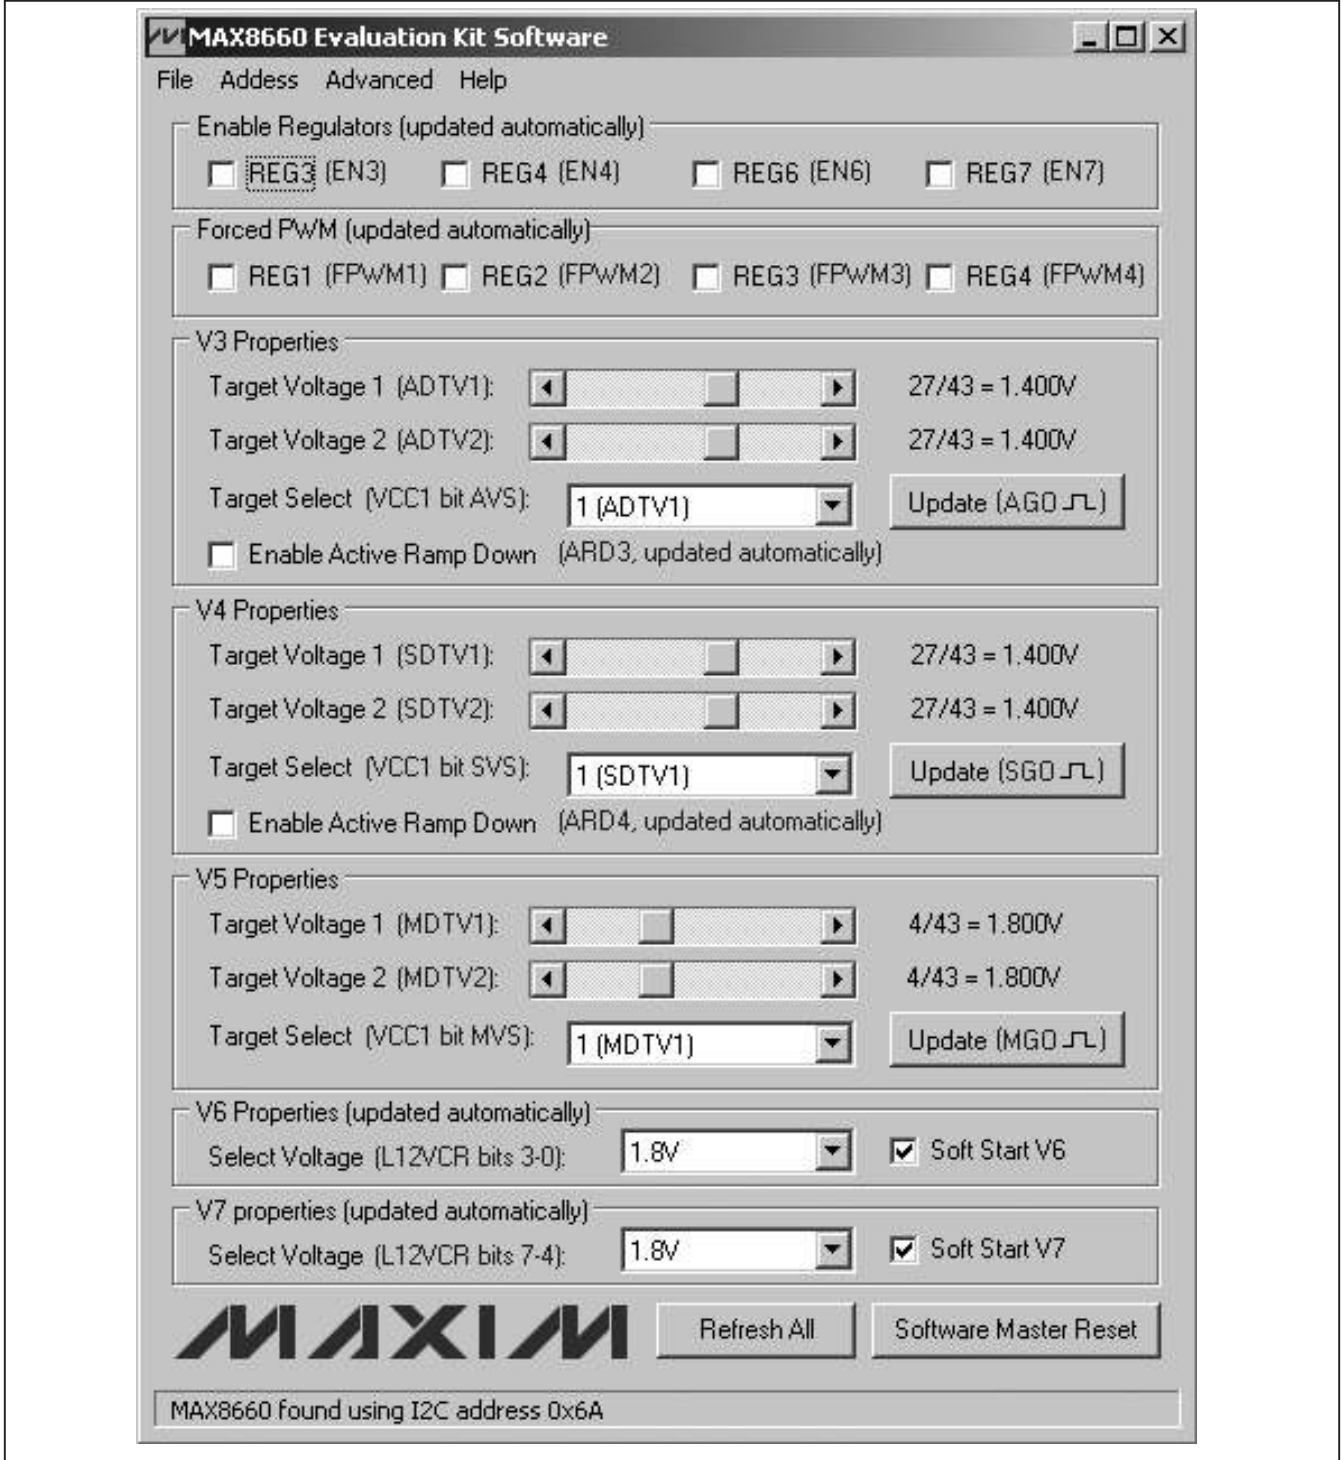

Figure 2. MAX8660 EV Kit Software Main Interface Window
- 17) Start the MAX8660 EV kit software by opening its icon in the **Start** menu. The main interface window appears, as shown in Figure 2.
On startup, the software automatically recognizes the MAX8660 and brings up the main interface window (see Figure 2).
All of the I²C functions of the MAX8660 are accessed through the main interface window, as shown in Figure 2.